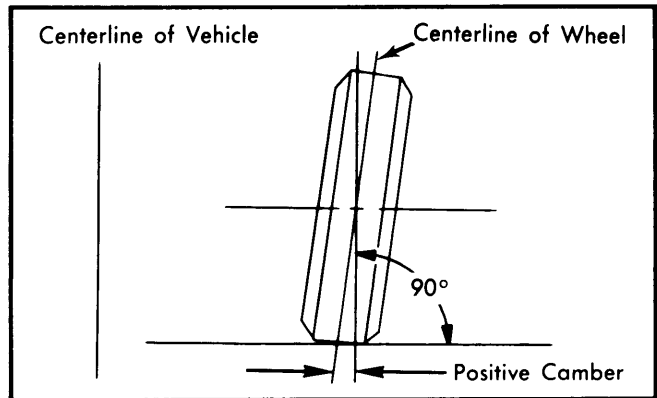

Fig. 3 Determining Camber Angle
- 1) Camber is the tilting of the wheel, outward at either top or bottom, as viewed from the front of vehicle. See Fig. 3.